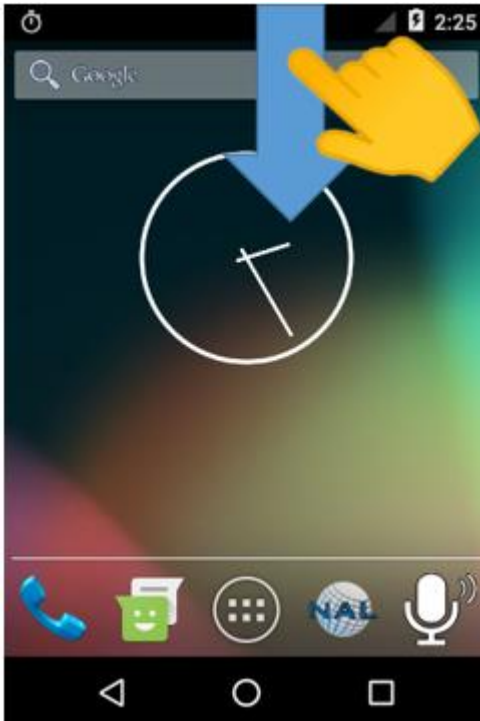

Figure 77: Swipe Down
3. Swipe Down from the top of the SHOUT sp screen to display USB for charging notification (see **Figure 77**).